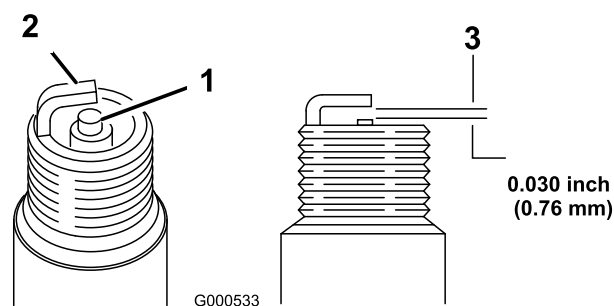

Figure 31
5. Set the gap on the plug to 0.030 in. (0.76 mm) (Figure 31).